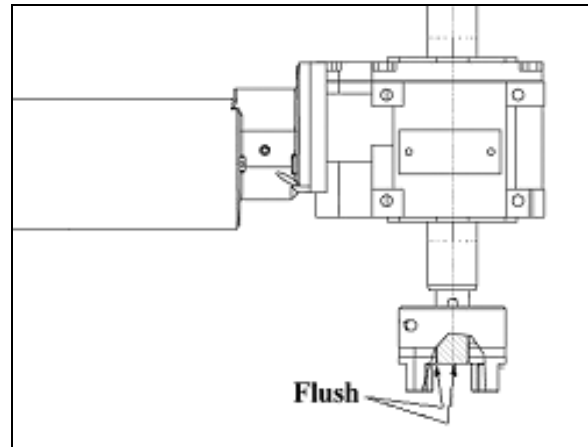

FIGURE 19: CLAMPING HUB POSITION ON GEARBOX SHAFT
6. Install a clamping hub on one of the gearbox shaft (opposite side of gearbox mounting bolts) flush with the shaft extremity (Figure 19). Tighten the clamping screw to a torque of 18 lbf-ft.
7. Install the second clamping hub on the gearbox shaft. Position the clamping hubs so that they are flush with the shafts extremity (Figure 19).